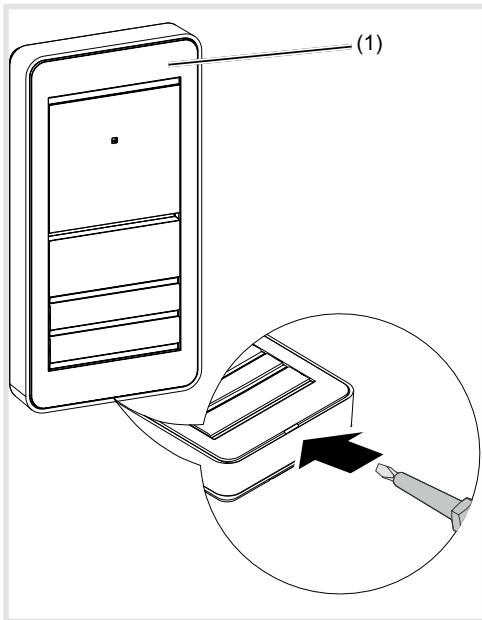

Figure 3: Unclipping the design front plate
- Unclip the design front plate (1) using a flat-headed screwdriver (4 mm) (figure 3).